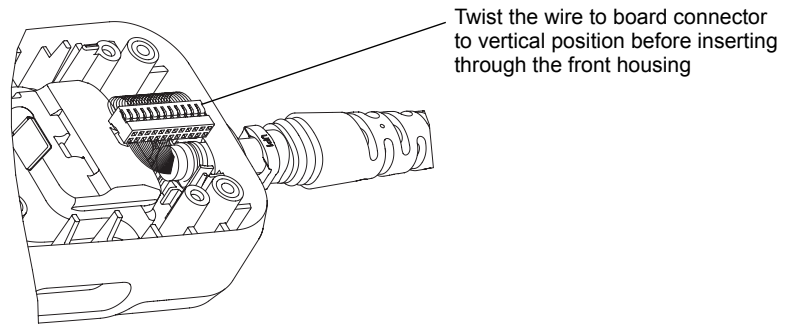

Figure 6-45 Spiral Cord Connector
13. Twist the spiral cord wire to board connector to vertical position as shown below and insert through the Cradle front housing as illustrated in Figure 6-45.